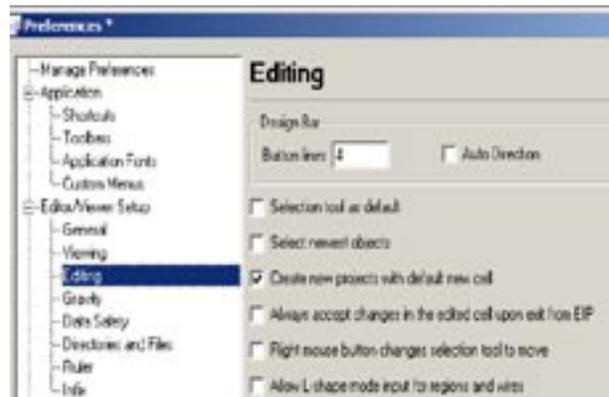

Figure 1. Creation of new projects with default cell option.
A. Under the Setup>>Editor Viewer...>Editing please uncheck the box "Create new projects with default new cell" (see Figure 1). The project/library will then open without creating any default cell, the user will have to choose Cell>New to create its first cell.